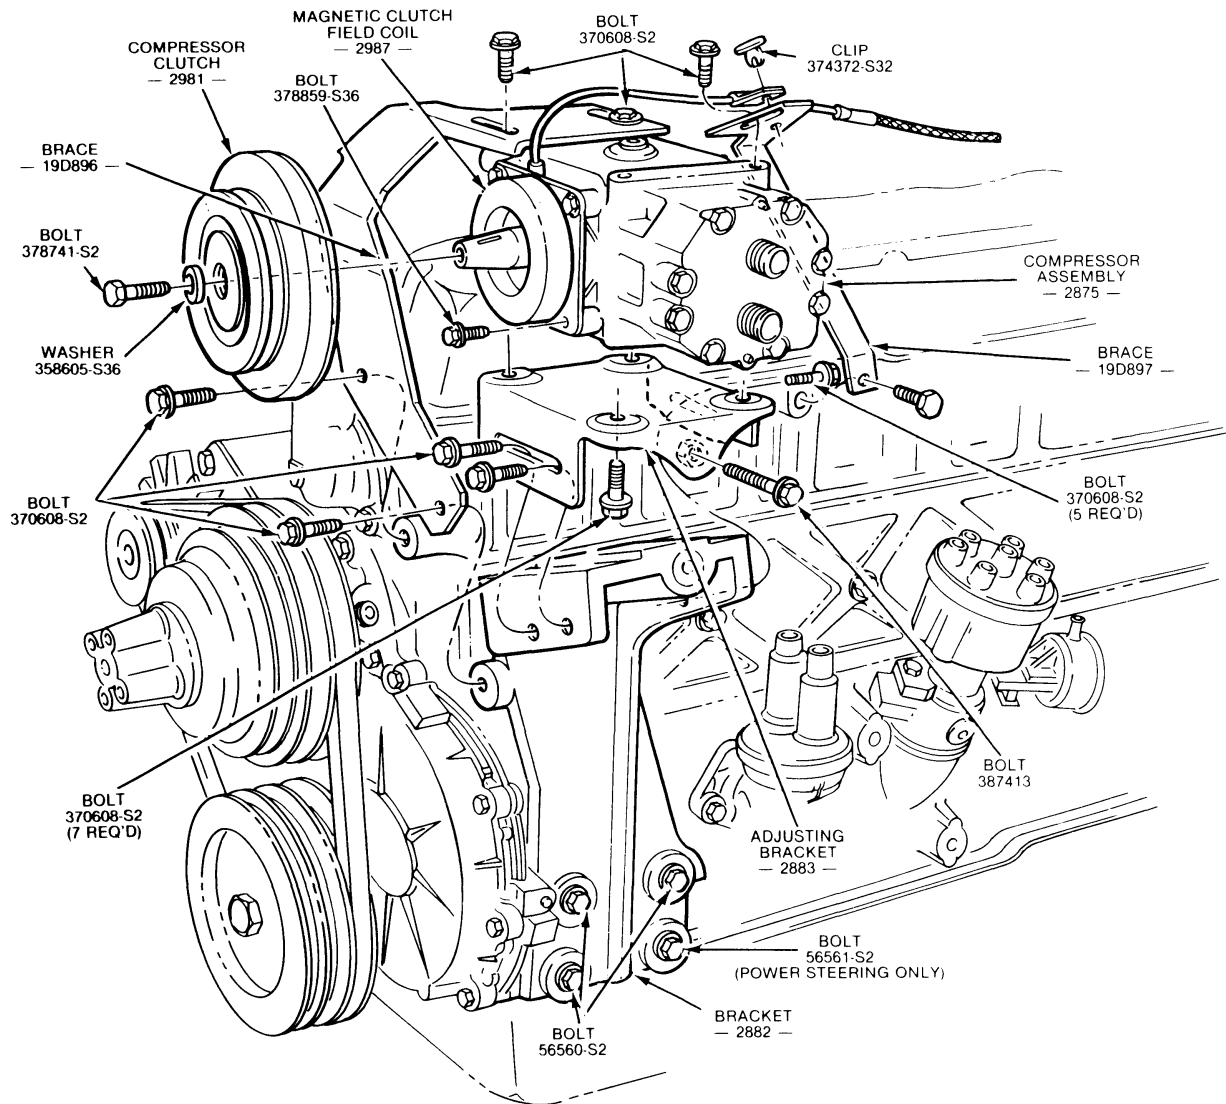

Fig. 28 — Compressor Removal — 4.9L Engine
6. Remove two (2) bolts attaching the front brace to the compressor mounting bracket and engine and two (2) bolts attaching the brace to the compressor (Fig. 28).
7. Remove one bolt attaching the rear brace to the compressor (Fig. 28).
8. Remove three (3) bolts attaching the compressor mounting bracket to the support bracket, and remove the compressor and bracket from the vehicle.
1. Position the mounting bracket to the compressor and install the four (4) attaching bolts (Fig. 28).
3. Position the compressor and bracket to the support bracket and install the three (3) attaching bolts (Fig. 28).
5. Position the front brace to the compressor and engine and install the four (4) attaching bolts (Fig. 28).
7. Connect the clutch field coil wire at the in-line connector, and clamp the wire to the rear support brace with the push clip (Fig. 28).
2. Remove four screws attaching the field coil to the compressor (Figs. 28, 29 and 30).